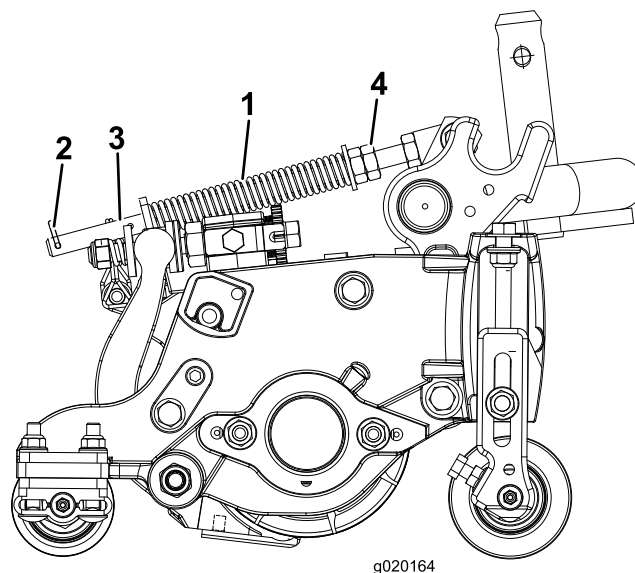

Figure 14
1. Make sure the hairpin cotter is installed in the rear hole in the spring rod (Figure 14).
2. Tighten the hex nuts on the front end of the spring rod until the compressed length of the spring is 5 inches (12.7 cm) (Figure 14).